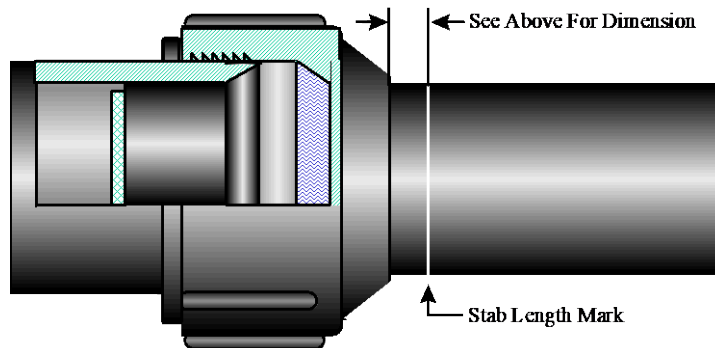

Figure 2
6. Tighten the compression nut until it shoulders against the body of the outlet. **Do Not Over Tighten.** If you cannot see the stab mark or the end of the compression nut is not within the distances listed below, reassemble the fitting. See figure 2.